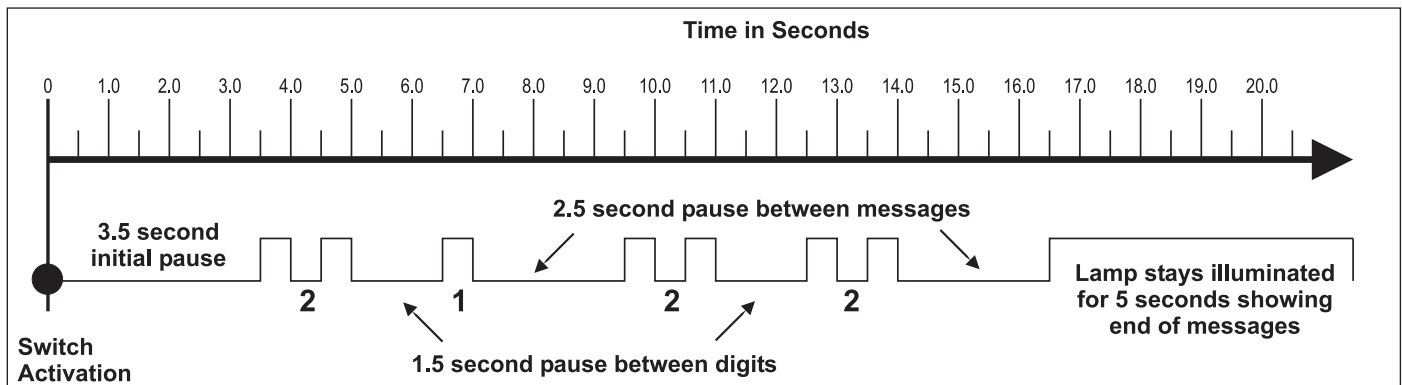

FIGURE 10 - EXAMPLE OF BLINK CODE MESSAGE
4. After a pause of 3.5 seconds, the ECU will begin responding with output information blinks. See Figure 10 for an example.
See Figure 10 for an example showing the message: